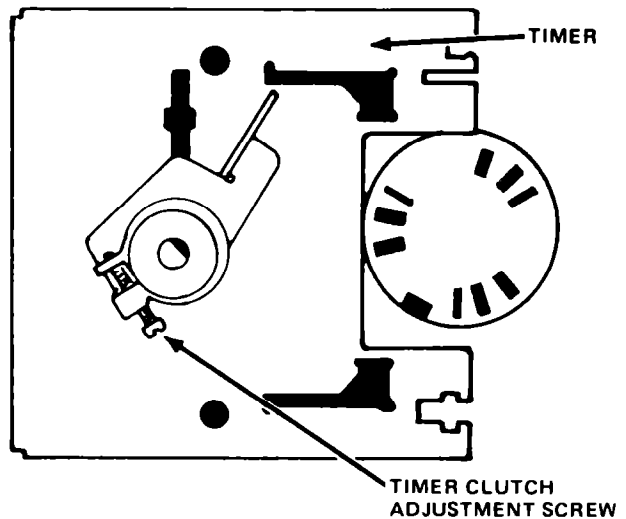

Figure 15
A. If the appliance fails to start after the coin slide mechanism has been fully actuated IN or OUT, a CLOCK-WISE adjustment of the screw is indicated. (See Figure 15.)
B. If the appliance timer goes past the third increment of fill (less than 9-1/2 minutes of wash will occur in Normal cycle), turn the adjustment screw COUNTER-CLOCK-WISE. (See Figure 15.)